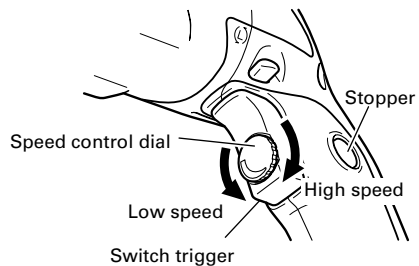

Fig. 10
- The desired rotation speed can be pre-selected with the speed control dial. Turn the speed control dial clockwise for higher speed and counterclockwise for lower speed. (Fig. 10)